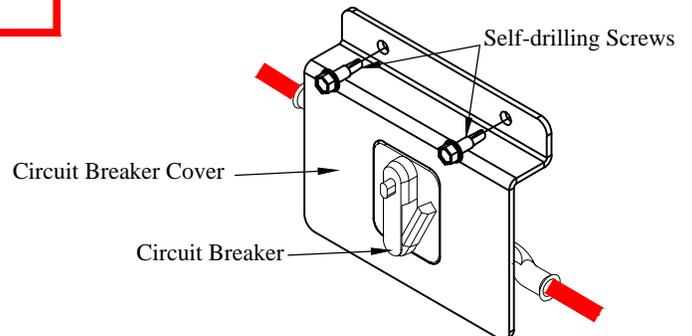

Figure 3: Circuit breaker cover.
14. **Attach** the circuit breaker cover using the supplied self-drilling screws (Figure 3).